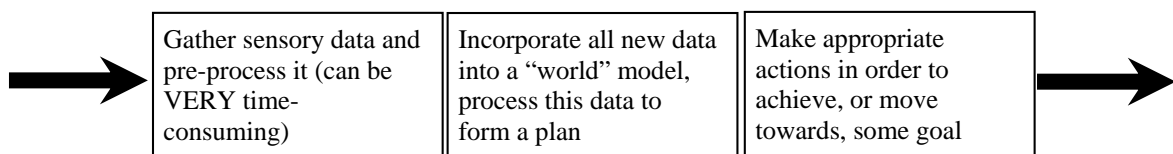

Figure 1: The Classical AI method
The Behaviour Based Robotics “crusade” that swept through the Artificial Intelligence (AI) research community in the late 1980s and early 1990s started a revolution that was just waiting to happen. By the late 1980s, classical AI approaches had established a very successful reputation in certain important niche application areas. However, in these times, an important focus on “situated” AI emerged, i.e., Artificially Intelligent creatures moving and interacting with their environment. It quickly became clear that the usefulness of the Classical AI approaches in fast reactive, and other low-level, behaviour commonly found in these robotics-dominated areas, was *very* limited. The classical approach to the embedded tasks of goal achievement for a mobile robot in a sensor information-rich environment, seemed to be computationally intractable. The classical, and ultimately unsuccessful, approach involved three phases. Firstly, collect *all* available sensory information (the “sense” phase). Secondly, process *all* this low-level data together (normally in very complex ways) to build an environmental model that can be manipulated in meaningful ways (the “think” phase). Finally, drive the motor interfaces appropriately (the “act” phase). This structure is illustrated in figure 1 below. The first and second phases of this sequential procedure can be *very* computationally demanding, partly because the robot’s controller is trying to manipulate *all* of the information centrally.